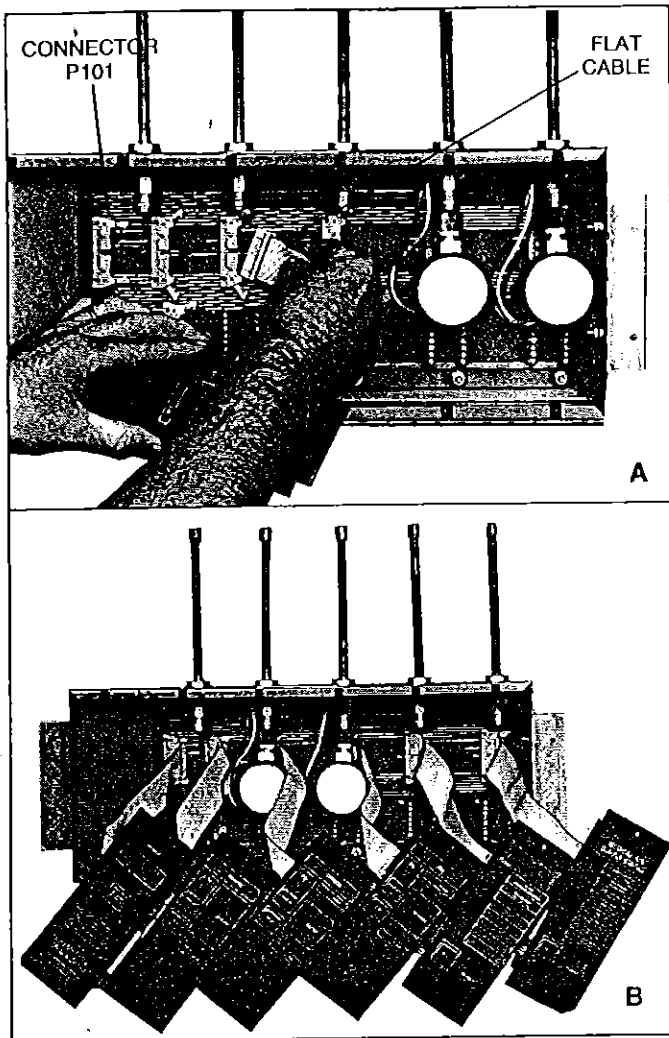

FIG. 11 — FLAT CABLE CONNECTION TO PC BOARD
1. Holding the snap-on wire connector from the transducer, connect the transducer in module position No. 1 (next to the display module) to the PC board at P1B (See Fig. 11).